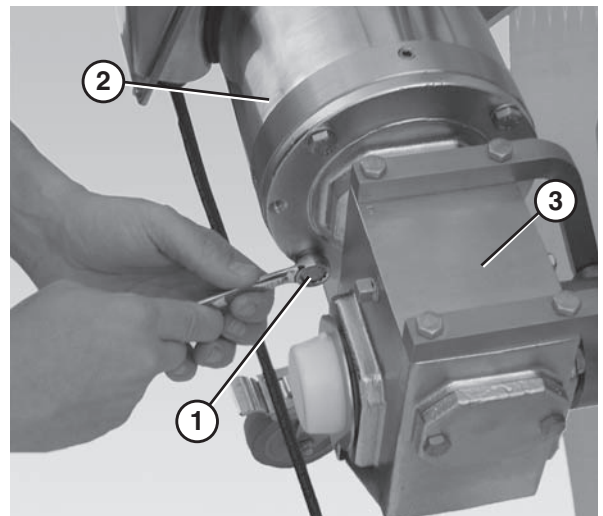

Figure 29
5. Remove the bolts (Figure 29, item 1) that connect the motor (Figure 29, item 2) to the gear reducer (Figure 29, item 3) (horizontal drive shown in figures).